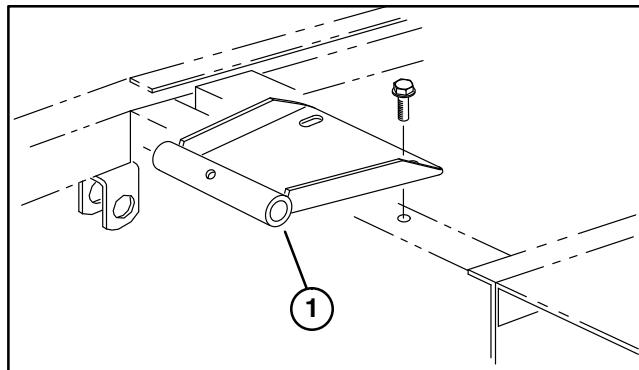

Figure 8
- Mount seat pivot bracket to frame with (2) flange screws supplied in kit (Fig. 8)
10. Mount seat pivot bracket to frame with (2) flange screws supplied in kit (Fig. 8).